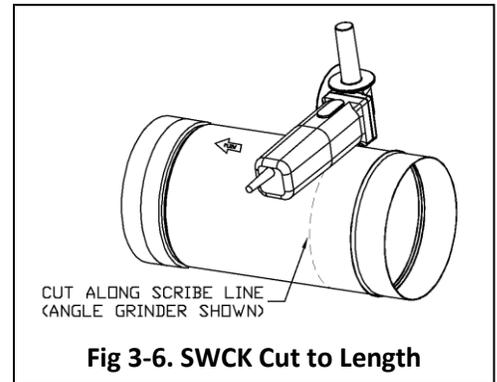

Fig 3-6. SWCK Cut to Length
4. Using this line as a guide, cut and remove the extra material from the Male End. Deburr all cut edges (See Fig 3-6).